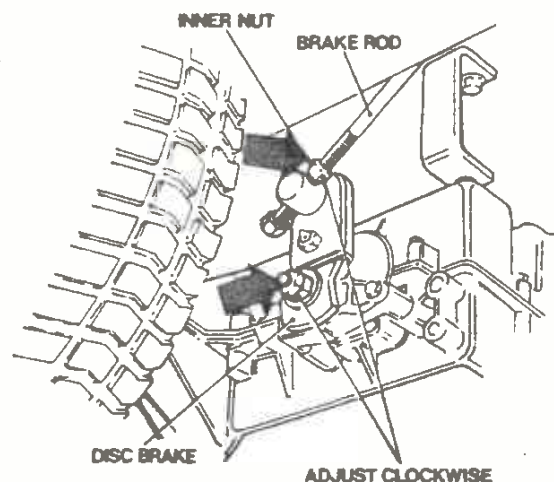

Figure 17. Tractor Brake Adjustment
- 2) Locate the two nuts positioned on the Brake Rod either side of the pivot on the Brake Operating Cam at the side of the Transaxle. (See Figure 17. Tractor Brake Adjustment). The Brake mechanism is purposely designed to be loose for forward or backward pivoting. The Brake is adjusted by tightening the Inner Nut next to the Pivot. Always ensure that the END Nut is positioned at the very end of the Rod.
- 3) An additional adjustment to the Brake System is available, via two locknuts on the outside of the disc brake. This last adjustment is subject to there being sufficient brake life in the pads. (See Figure 17. Tractor Brake Adjustment).